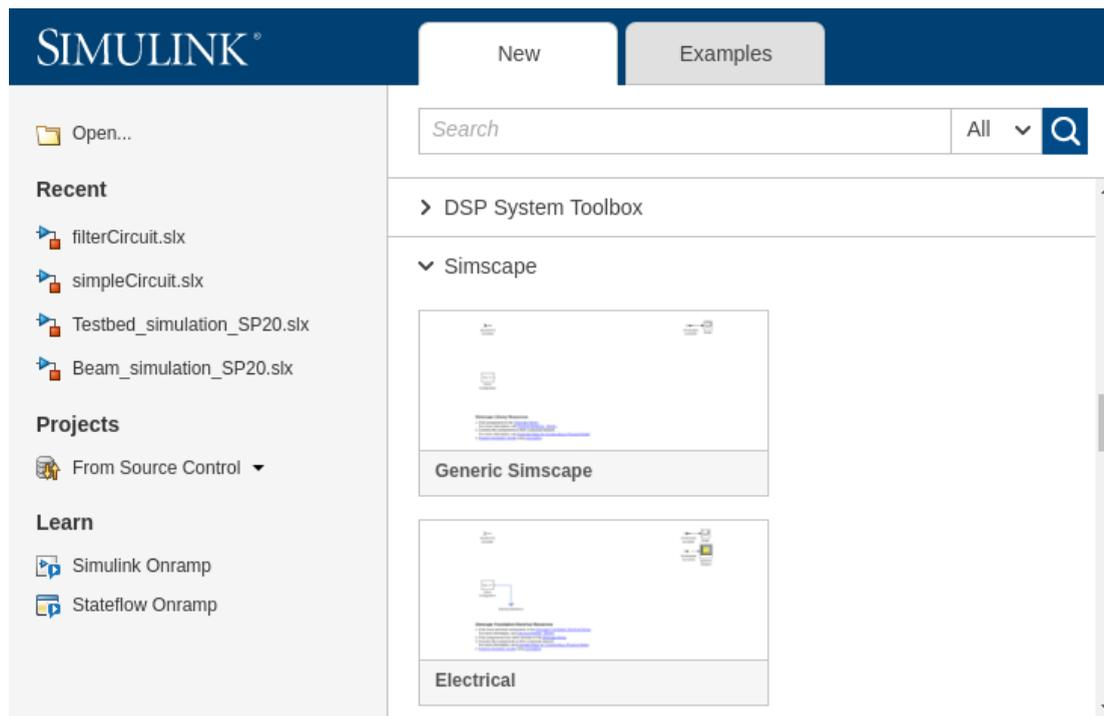

Figure 4: Select Simscape-Electrical in the Simulink start page.
- On the simulink start page, go to the Simscape drop-down menu and from the Electrical section click *Create Model* as in Figure 4.